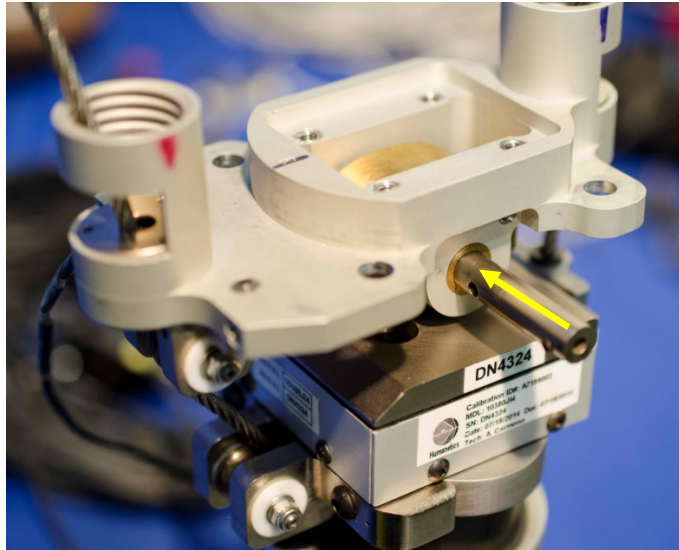

Figure 4-32. Insert O.C. pin into cam
- 4.2.2.21 Insert the Neck Occipital Condyle Pin (472-2011) into the cam hole (Figure 4-32). Be certain that the pin is properly oriented within the hole so that the holes in the pin aligns with the occipital condyle screw in the rear.